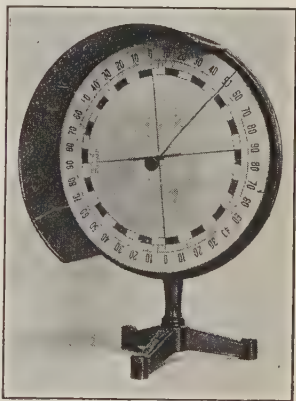

FIGURE 264. — THE LAW OF REFLECTION ILLUSTRATED.
**EXPERIMENT 77.** — Mount a plane mirror at the center of a circle divided into degrees (Figure 264). Let a ray of light, coming through a slit, fall upon the mirror at right angles. *What is the path of the reflected ray?* Change the position of the mirror so that the ray strikes at some other angle with the mirror. Draw a perpendicular (*normal*) to the mirror at the point where the ray strikes the reflecting surface. Measure the angle between the ray falling on the surface and the normal. Measure the angle between the ray leaving the surface and the normal. *How do these two angles compare in size?*